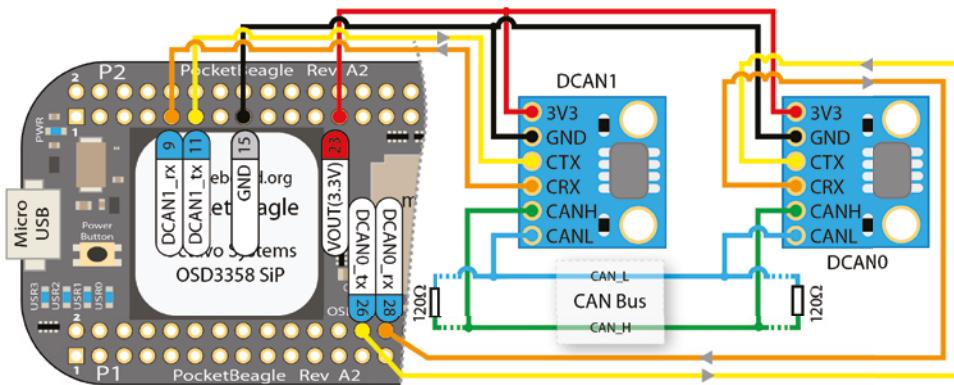
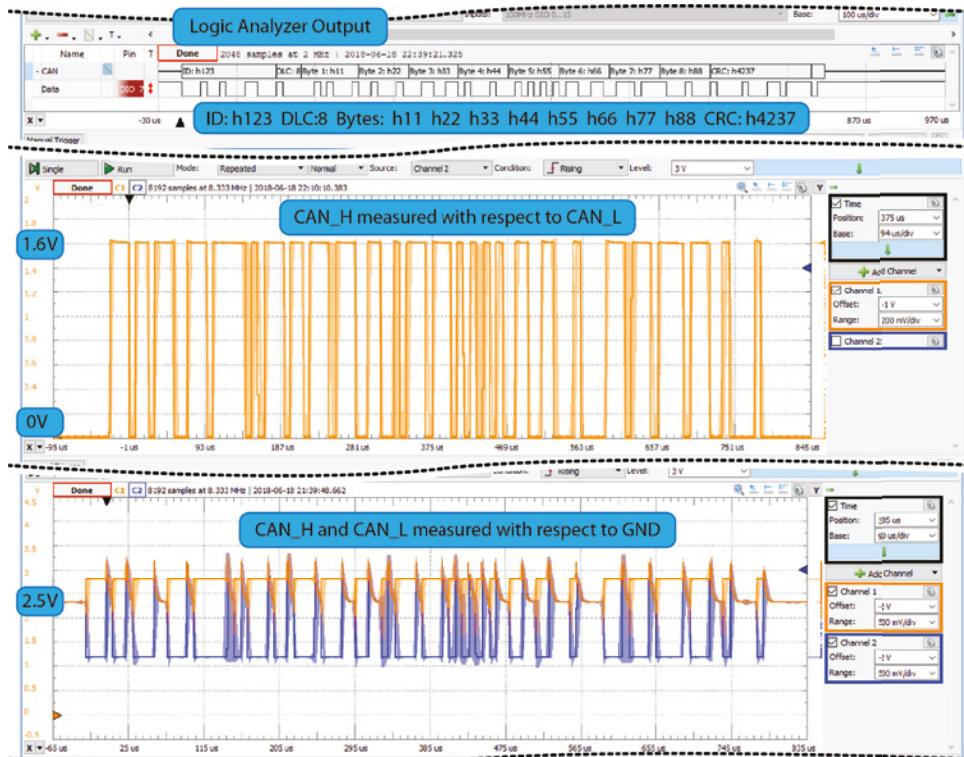

Figure 8-24: PocketBeagle CAN Bus test using DCAN0 and DCAN1 for a hardware loopback test with SN65HVD230 CAN modules
Figure 8-25: A logic analyzer and scope capture of the CAN Bus circuit in Figure 8-24 sending the message 123#11.22.33.44.55.66.77.88
You can use both CAN buses on the PocketBeagle or BeagleBone to create a true hardware loopback test. You could also perform this test by using one CAN interface on two separate boards. Importantly, you will need to acquire and connect two CAN physical layer modules (e.g., TI SN65HVD230-based modules), as illustrated in Figure 8-24. Other third-party CAN bus devices can be added to the bus at this point.
CAN Bus requires termination resistors on the CAN_H and CAN_L lines that match the nominal impedance of the cable. The ISO 11898 CAN standard requires a cable with a nominal impedance of 120Ω . You should place two such resistors on each end of the cable, as illustrated in Figure 8-24.
You can test the configuration in Figure 8-24 using the SocketCAN Can-utils tools (elinux.org/Can-utils). These are installed on the BeagleBoard.org Linux image by default in the `/usr/bin/` directory.
Figure 8-25 displays a capture of the CAN Bus in Figure 8-24 when the following message is transmitted to the bus. You can also see that the voltage level profile of the bus is consistent with Figure 8-23(b).⁵
⁵To use the Analog Discovery (AD) to interpret the CAN Bus you can connect the AD GND to the Beagle board GND, any DIO pin (e.g., DIO7) to the CAN_L line (as in Figure 8-24), set the polarity to “low,” and set a trigger. This ensures that the DIO pin is maintained within voltage range for the AD. Do not connect the CAN_H line to the AD DIO pins as it may exceed acceptable voltage levels when using 5V CAN Bus connections.
The code can be compiled and executed as follows, whereupon a message will be sent to the bus and received by the `candump` utility that is running in a separate terminal window, provided that the circuit is configured as in Figure 8-24.